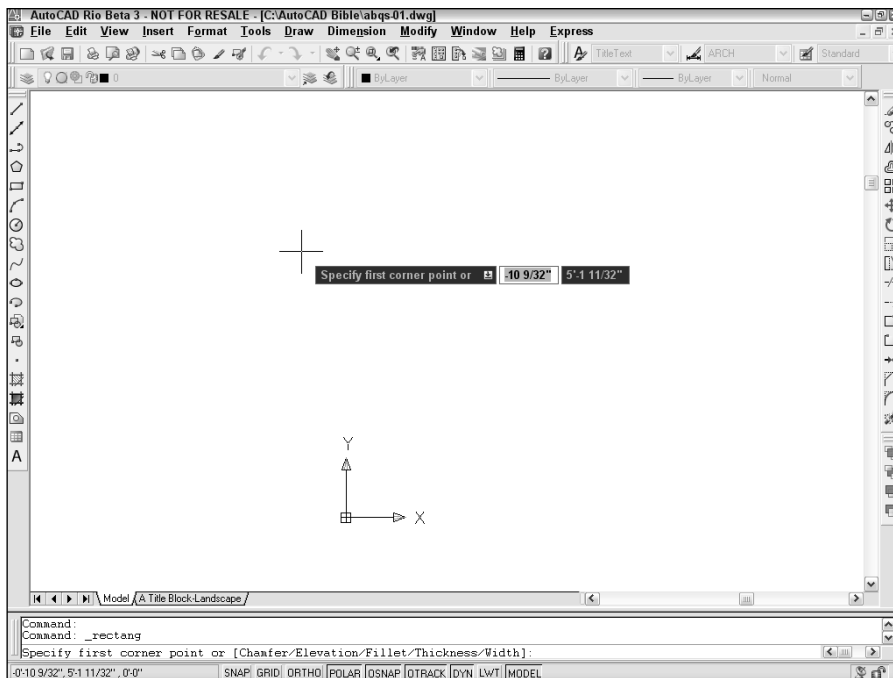

Figure QS-2: Drawing a rectangle.
-  With your left mouse button (also called the *pick button*), choose Rectangle from the Draw toolbar on the left side of your screen. Figure QS-2 shows this toolbar. (Using toolbars is only one way to give AutoCAD and AutoCAD LT commands. I explain other ways in Chapter 3. You can find more about drawing lines and rectangles in Chapter 6.) Move your mouse so that the cursor is in the main drawing area. Your screen should look like Figure QS-2. (If you don't see the tooltip bar — also called the Dynamic Input tooltip — near the cursor, then click the DYN button on the Status bar at the bottom of your screen.)